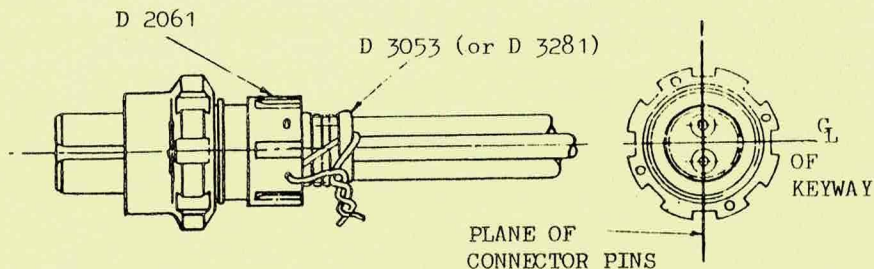

FIG 1
- (1) Ensure orientation of keyway relative to connector pins is correct. (Fig 1).